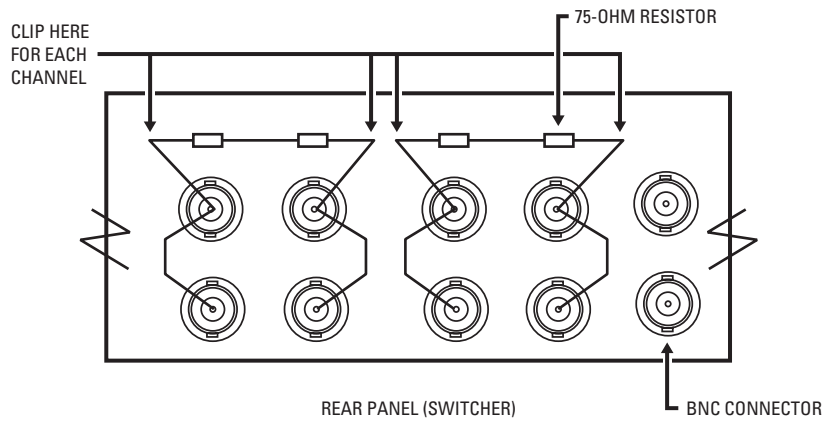

Figure 5. Looping Conversion Modification
1. Convert the switcher to looping operation. Refer to Figure 5 and do the following:
NOTE: IN THIS CONFIGURATION, MON 1 MUST BE TERMINATED AND THE UNIT MUST BE MODIFIED TO BE LOOPING (REFER TO FIGURE 5).
2. Convert to looping operation. Refer to Figure 5 and do the following:
NOTE: In this configuration the unit must be modified in order to be looping (refer to figure 5).